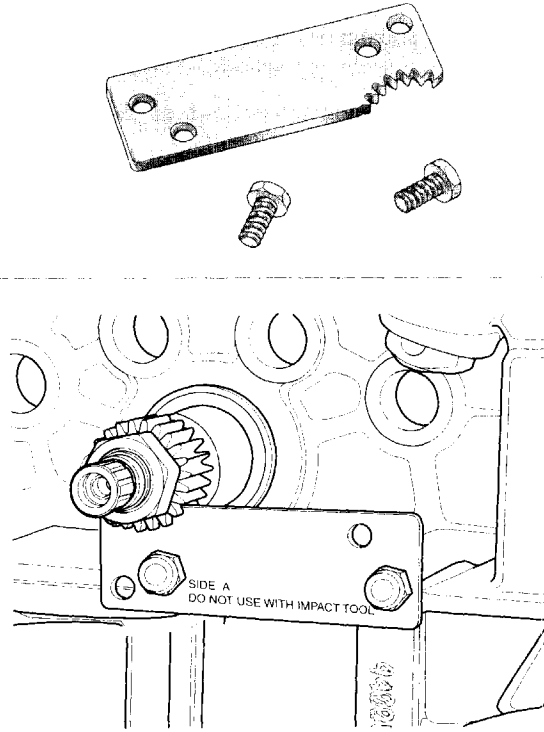

Figure 3-99. Crankshaft Locking Tool (Part No. HD-43984)
See Figure 3-99. When using CRANKSHAFT LOCKING TOOL, Do NOT use impact wrench to drive nut onto pinion shaft.
3. See Figure 3-99. Install CRANKSHAFT LOCKING TOOL (Part No. HD-43984) over pinion shaft. Install nut on pinion shaft. Tighten nut to 19-21 ft-lbs (26-29 Nm). Then tighten nut an additional 15-19 degrees of rotation. Remove CRANKSHAFT LOCKING TOOL (Part No. HD-43984).